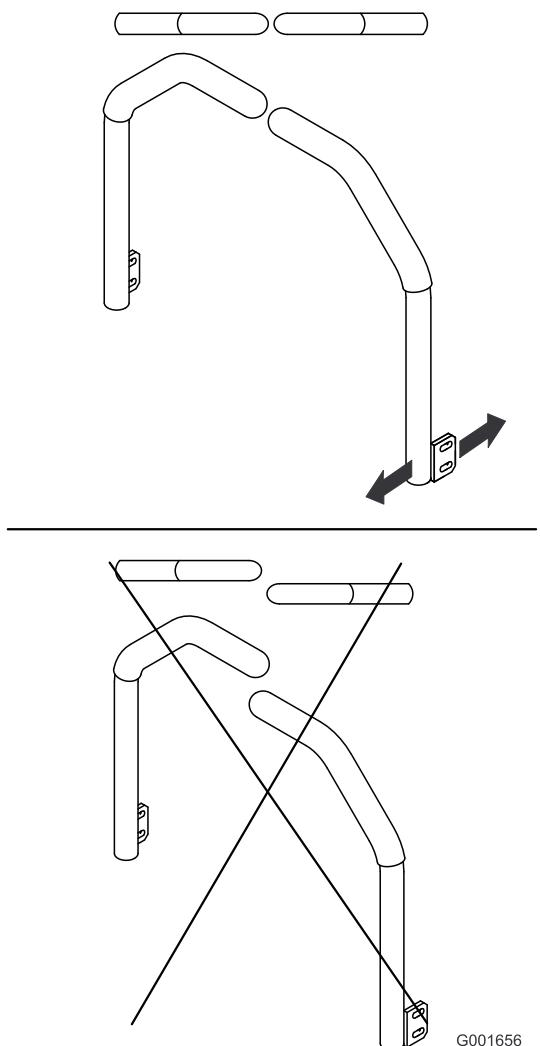

Figure 59
5. Adjust the control levers so that they line up and tighten the bolts, securing the levers to the posts (Figure 59).